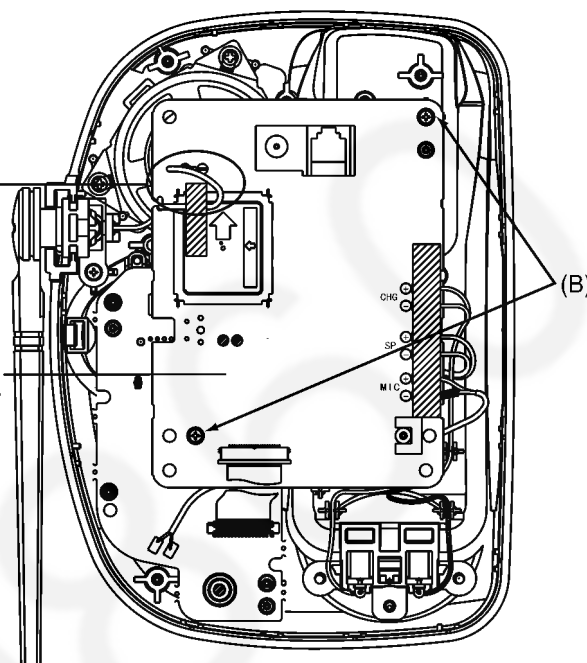

Fig. 2
2. SOLDER LEAD WIRES (BLUE, RED, WHITE) FROM THE SMALL P.C.B. TO MAIN P.C.B. (Fig. 2).